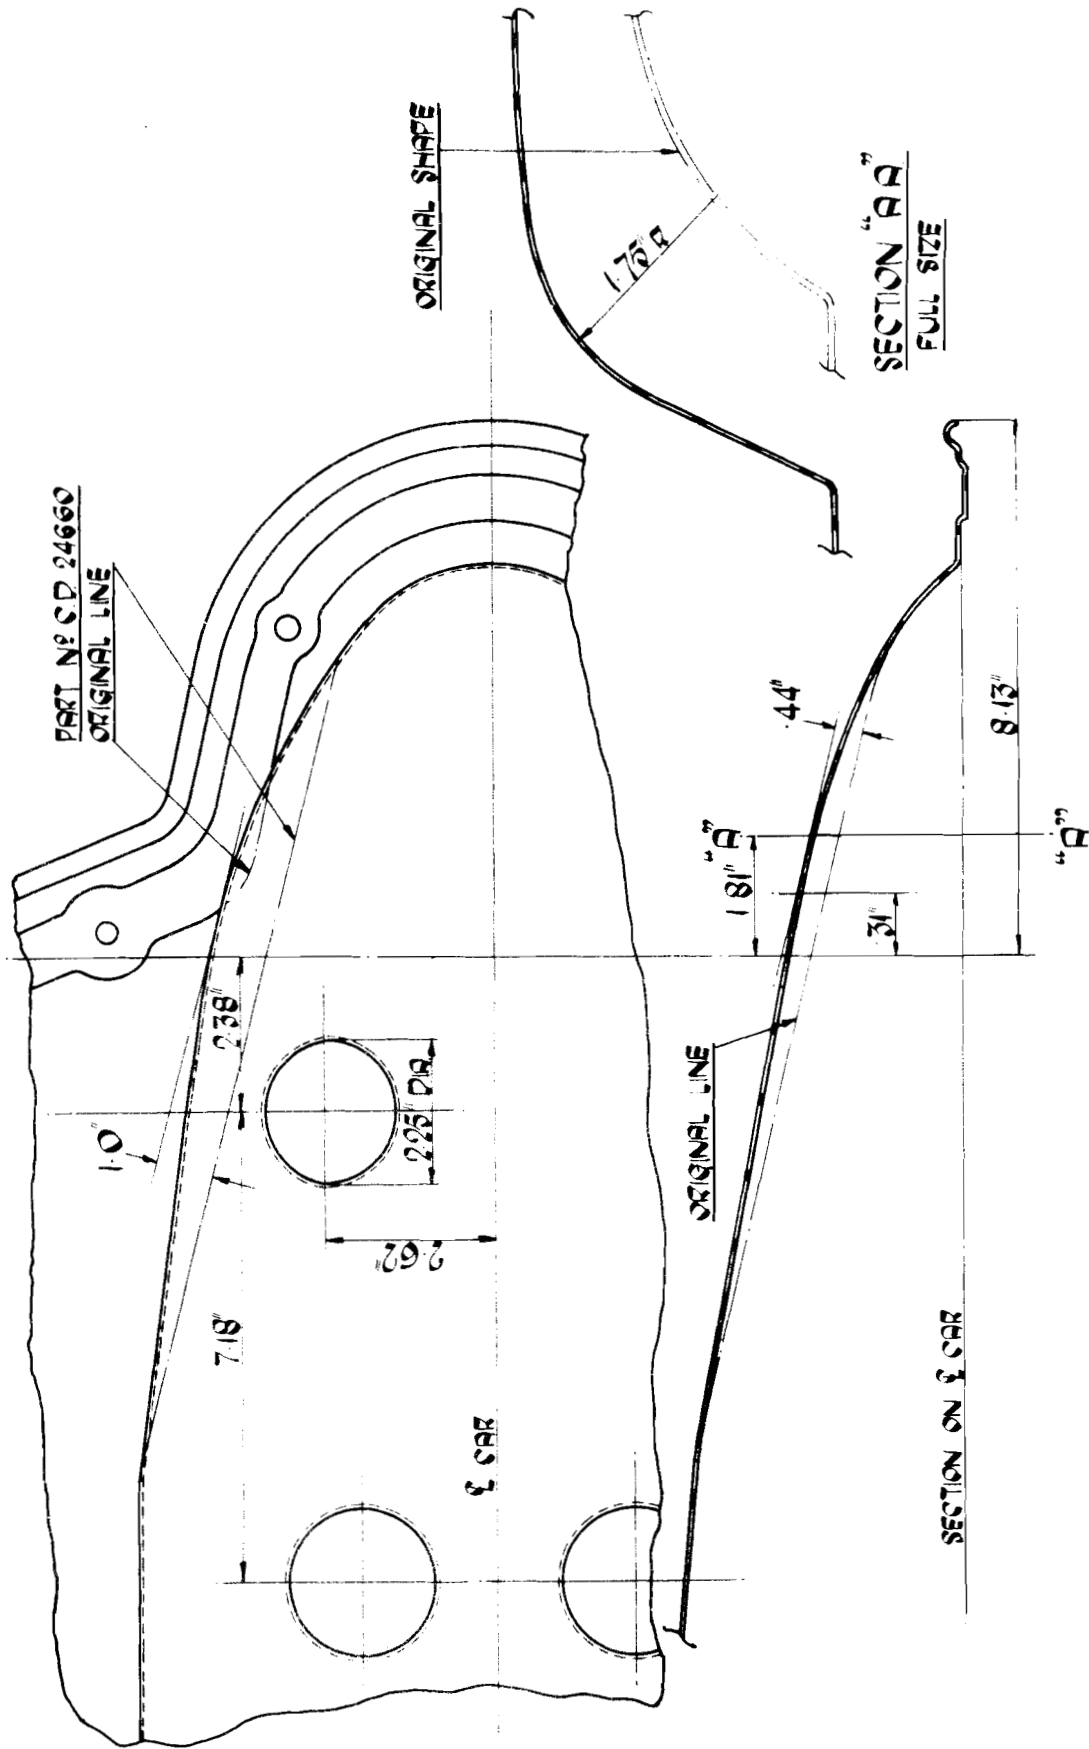

Fig. 7. Showing alteration to toe-board pressing over gearbox. This alteration is now included with all cars leaving the assembly lines.
13. The turret cover, which is an integral portion of the toe-board pressing, must be modified in shape and an additional hole added to allow access to the operating valve in the Overdrive Unit. The operating valve inspection hole should be sealed off with a spare gearbox dipstick grommet. Details for carrying out these alterations are shown in Fig. 7.